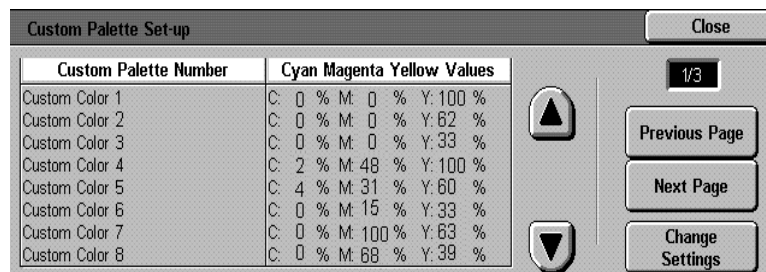

Figure 8: Custom Palette Set-up screen
- 3 Touch the **Custom Palette Set-up** button to display the **Custom Palette Set-up** screen (Figure 8).